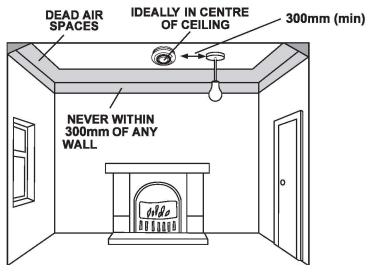

Fig.2
- At least 300mm away from walls (see Figure 2)